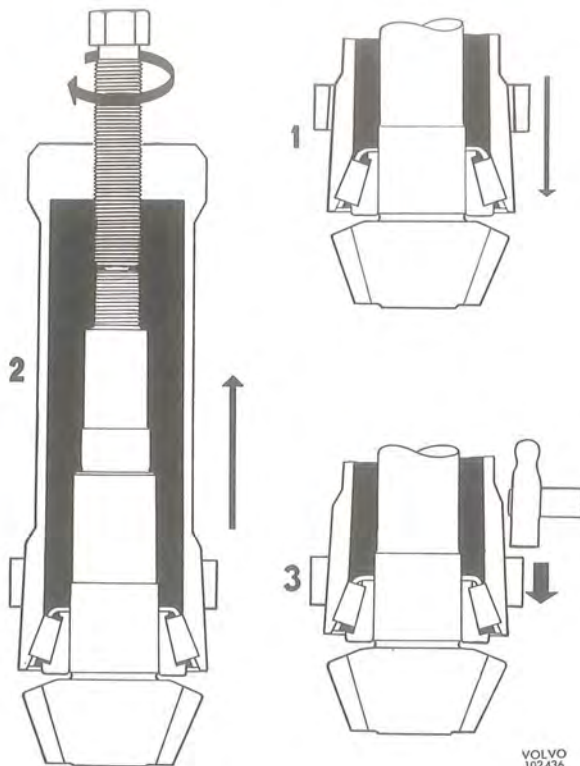
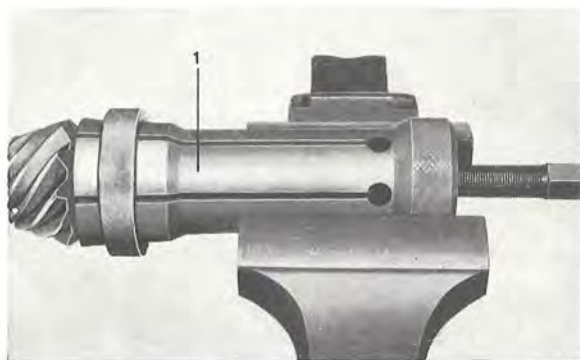

Fig. 4-144. Puller fitted
Fig. 4-143. Removing the rear pinion bearing
11. If necessary, pull off the rear bearing from the pinion with puller SVO 2844, see Fig. 4-143. The puller is fitted in the following way (see Fig. 4-144): Move the puller down over the rollers and press down the lock ring. Then pull up the puller with the bolt until the rollers lie flush with the edge of the inner race and the edge on the puller. Tap out the lock ring with a hammer.